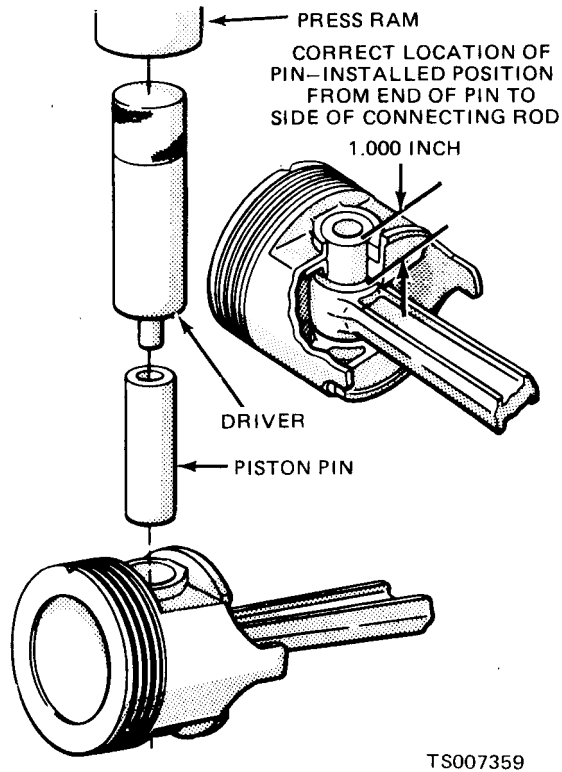

Figure 6-30. Installing Piston Pin.
(2) Start the piston pin in the piston and connecting rod. Using an arbor press, press the piston pin through the piston and connecting rod until the pin is centered in the connecting rod (fig. 6-30).